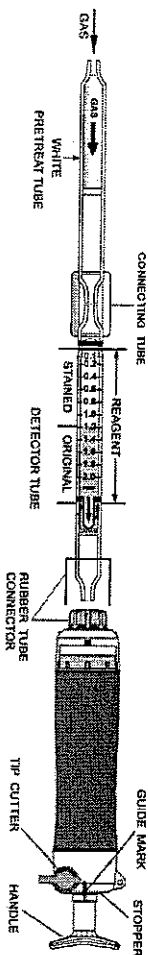

Fig. 1
- ① Break both ends of the detector tube and pretreat tube, and connect each end of the detector tube and pretreat tube with connecting tube as shown in Fig. 1.
- ② Insert the detector tube into the aspirating pump securely as shown in Fig. 1. (Arrow marks shall point to the pump.)
- ③ Align the guide marks on the shaft and stopper of the aspirating pump.
- ④ Pull the pump handle at a full stroke until it locks and wait for 3 minutes or until the completion of sampling is confirmed with the flow indicator of the pump. (See descriptions about the flow indicator in the instruction manual of the pump.)
- ⑤ Push back the handle without removing the detector tube from the rubber tube connector so that air in the pump will be discharged perfectly. Then repeat the step ④ ~ ⑤ three times.
- ⑥ On completion of sampling, read the scale at the maximum point of the stained layer.
- ⑦ When the concentration is over the scale range, 1 pump stroke can be used to determine concentrations of 0.5 - 10 ppm.